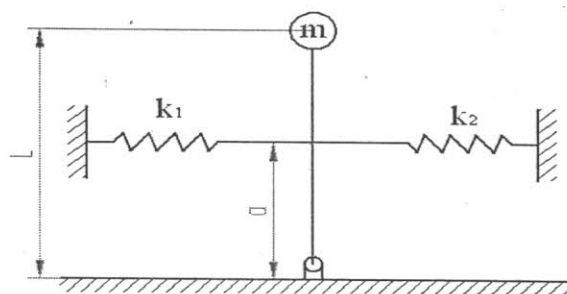

Fig. 2 (c)
- c) Determine the natural frequency of the system shown in Fig. 2(c) by Newton's method and Energy method.